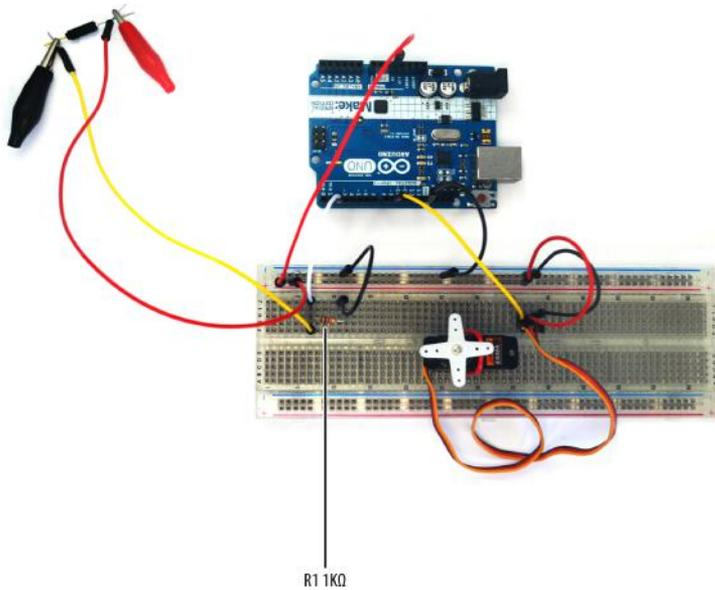
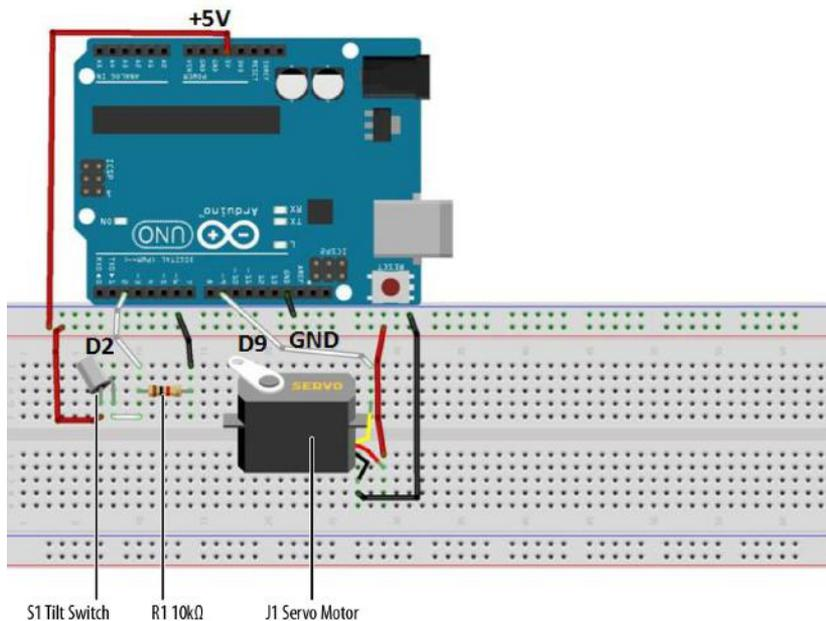

Figure 3-1. *Tilt Sensing Servo Motor Controller built on a full-size clear breadboard*
Figure 3-5. *Tilt Sensing Servo Motor Controller Fritzing diagram*
In this chapter, we'll build a gadget to easily detect object orientation using a tilt control switch to control a servo motor. This is an awesome device to build and show your Maker smarts to family and friends. By rotating the tilt control switch in an upright position, you'll be able to operate a servo motor. Figure 3-1 shows the Tilt Sensing Servo Motor Controller.
6. Wire the electronic parts using the Fritzing diagram of Figure 3-5, or the actual project shown in Figure 3-1.